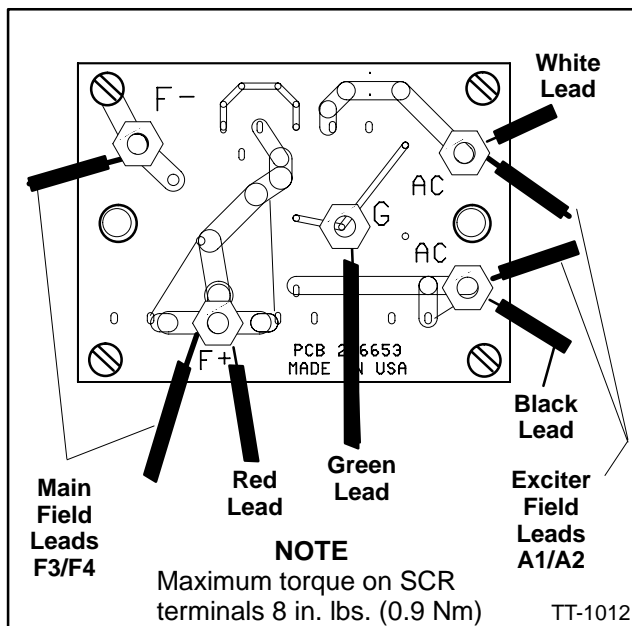

Figure 13. SCR Assembly Wiring
17. Make electrical connections to SCR assembly. When there is a choice between which lead to connect, choose the lead which does not stress the lead or terminal. See Figure 13 for wiring schematic.
Place one elastic stop nut (X-101-24) on each stud. Torque all nuts to 8 in. lbs. (0.9 Nm) maximum. Lead terminals must not contact any circuit board solder connections or any other studs or terminals when SCR assembly stud nuts are tightened. See Figure 13 for recommended lead positions. Use cable ties (X-468-3) as necessary to secure leads.